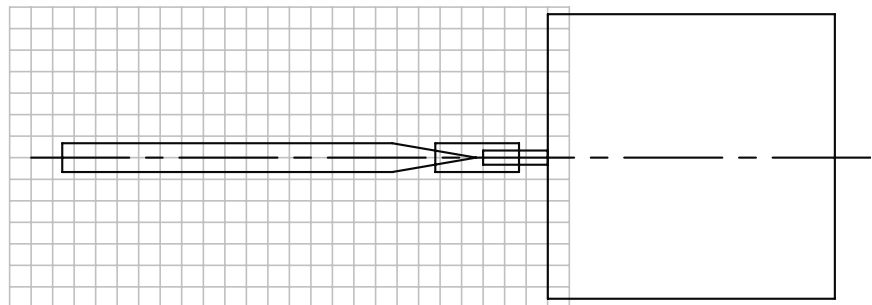

FIG. 6
Step 6. Draw the lines in **Fig. 6**.